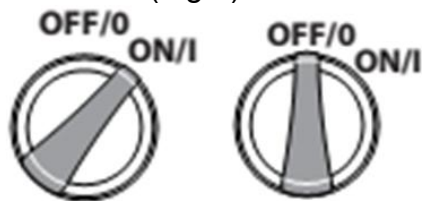

Fig. 5
5. Set the power switch at the position "I".(Fig.5)
2. Set the switch at the position "O".(Fig.5)
2. Turn off the power switch (the position "O").(Fig.5)